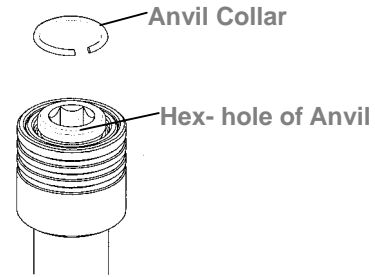

Fig. 305
(8) Anvil Unit Assembly: (for FLEXS-30SX, FLEXS-40SX, FLEXS-50SX, FLEXS-60SX, and FLEXS-70SX)
- (b) Put the anvil collar on the Anvil. (Fig. 305)